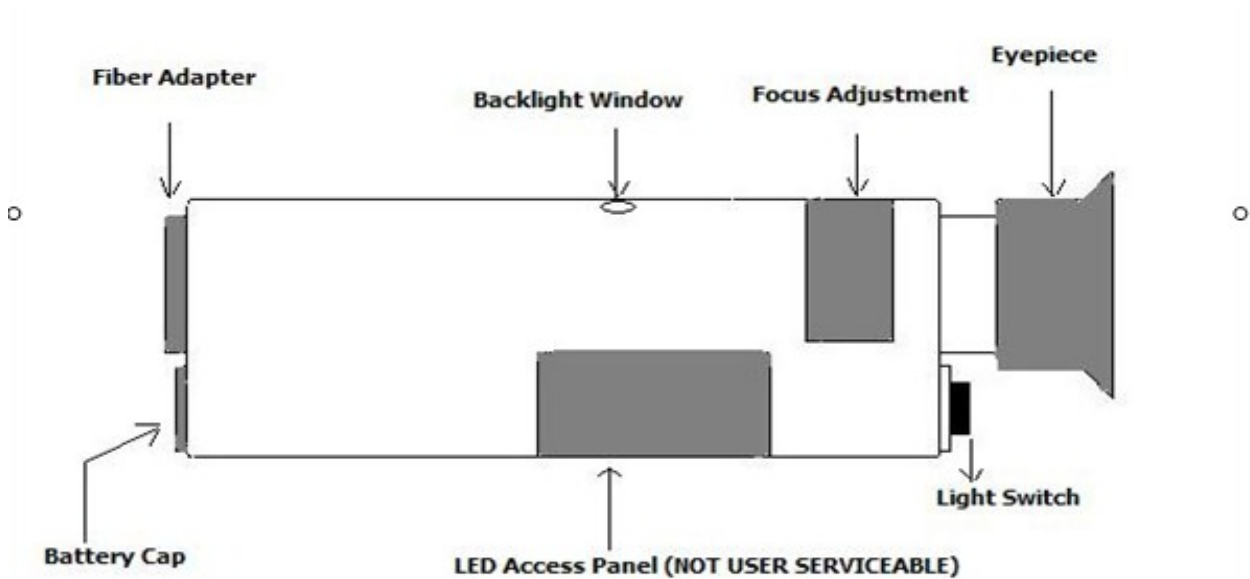

Figure 1
2. Now turn the light on.The light operates by pressing and holding the light Switch in .You can tell if the light is on by checking the "Backlight Window"(see figure1). If you see light through this window ,you are ready to work .